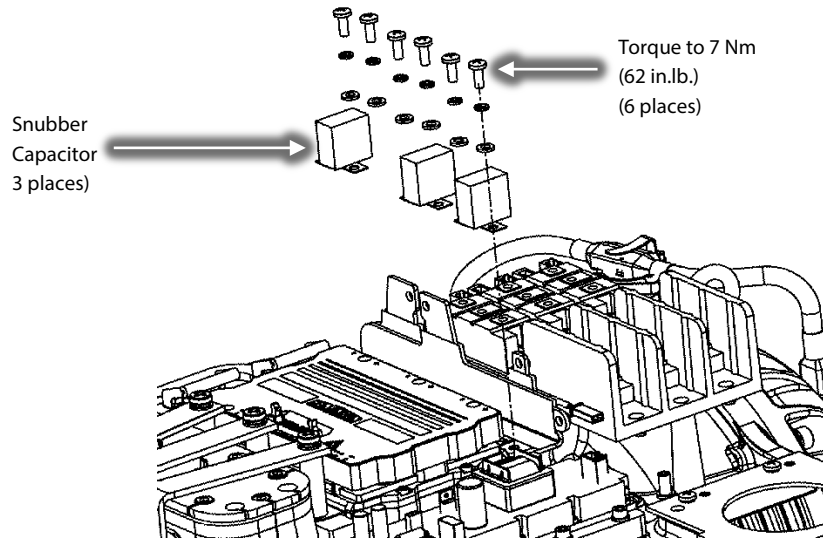

Figure 9 – Snubber Capacitor Removal
17. Disconnect the snubber capacitors from the Inverter noting the leg orientation of one leg is longer than the other. Refer to Figure 9 (Snubber Capacitor Removal). (TT300 Shown).